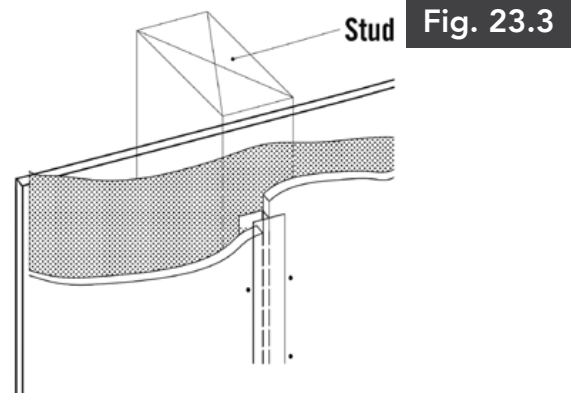

Fig. 23.3
- Use metal or PVC H-channel connector in accordance with manufacturer's instructions. (Fig. 23.3)